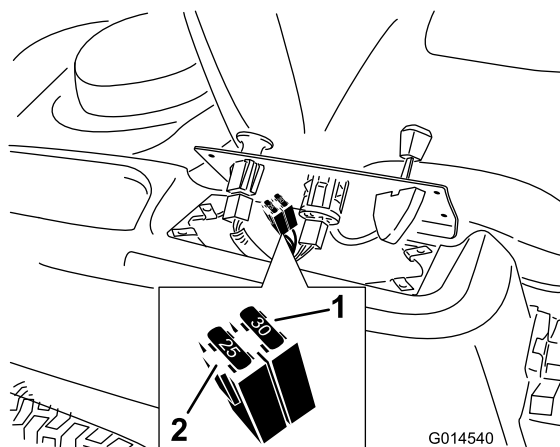

Figure 39
2. Lift the control pane up to access the main wire harness and fuse block (Figure 39).
3. To replace a fuse, pull out the fuse to remove it (Figure 39).